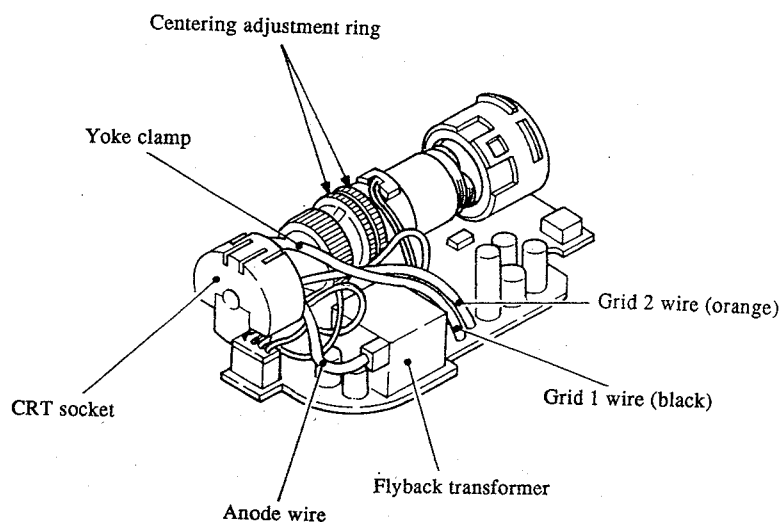

Fig. 6-30
- 1) Turn the centering rings until the upper, lower, right and left margins are even. (See Fig. 6-30, 6-31)
- 1) Adjust to optimum focus with RV4 (focus adjustment VR). (See Fig. 6-30)